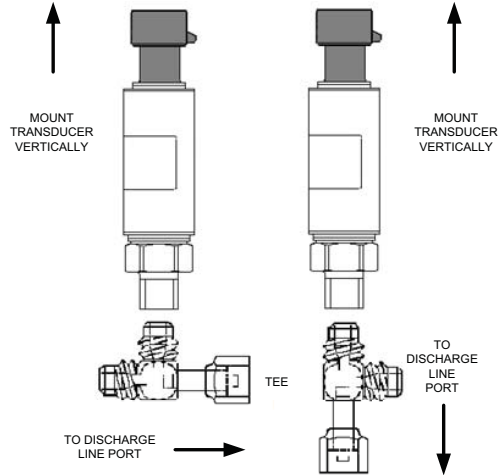

FIGURE 3 - PRESSURE TRANSDUCER MOUNTING
- Tighten and secure the connection, making sure the transducer is mounted vertically. See Figure 3.